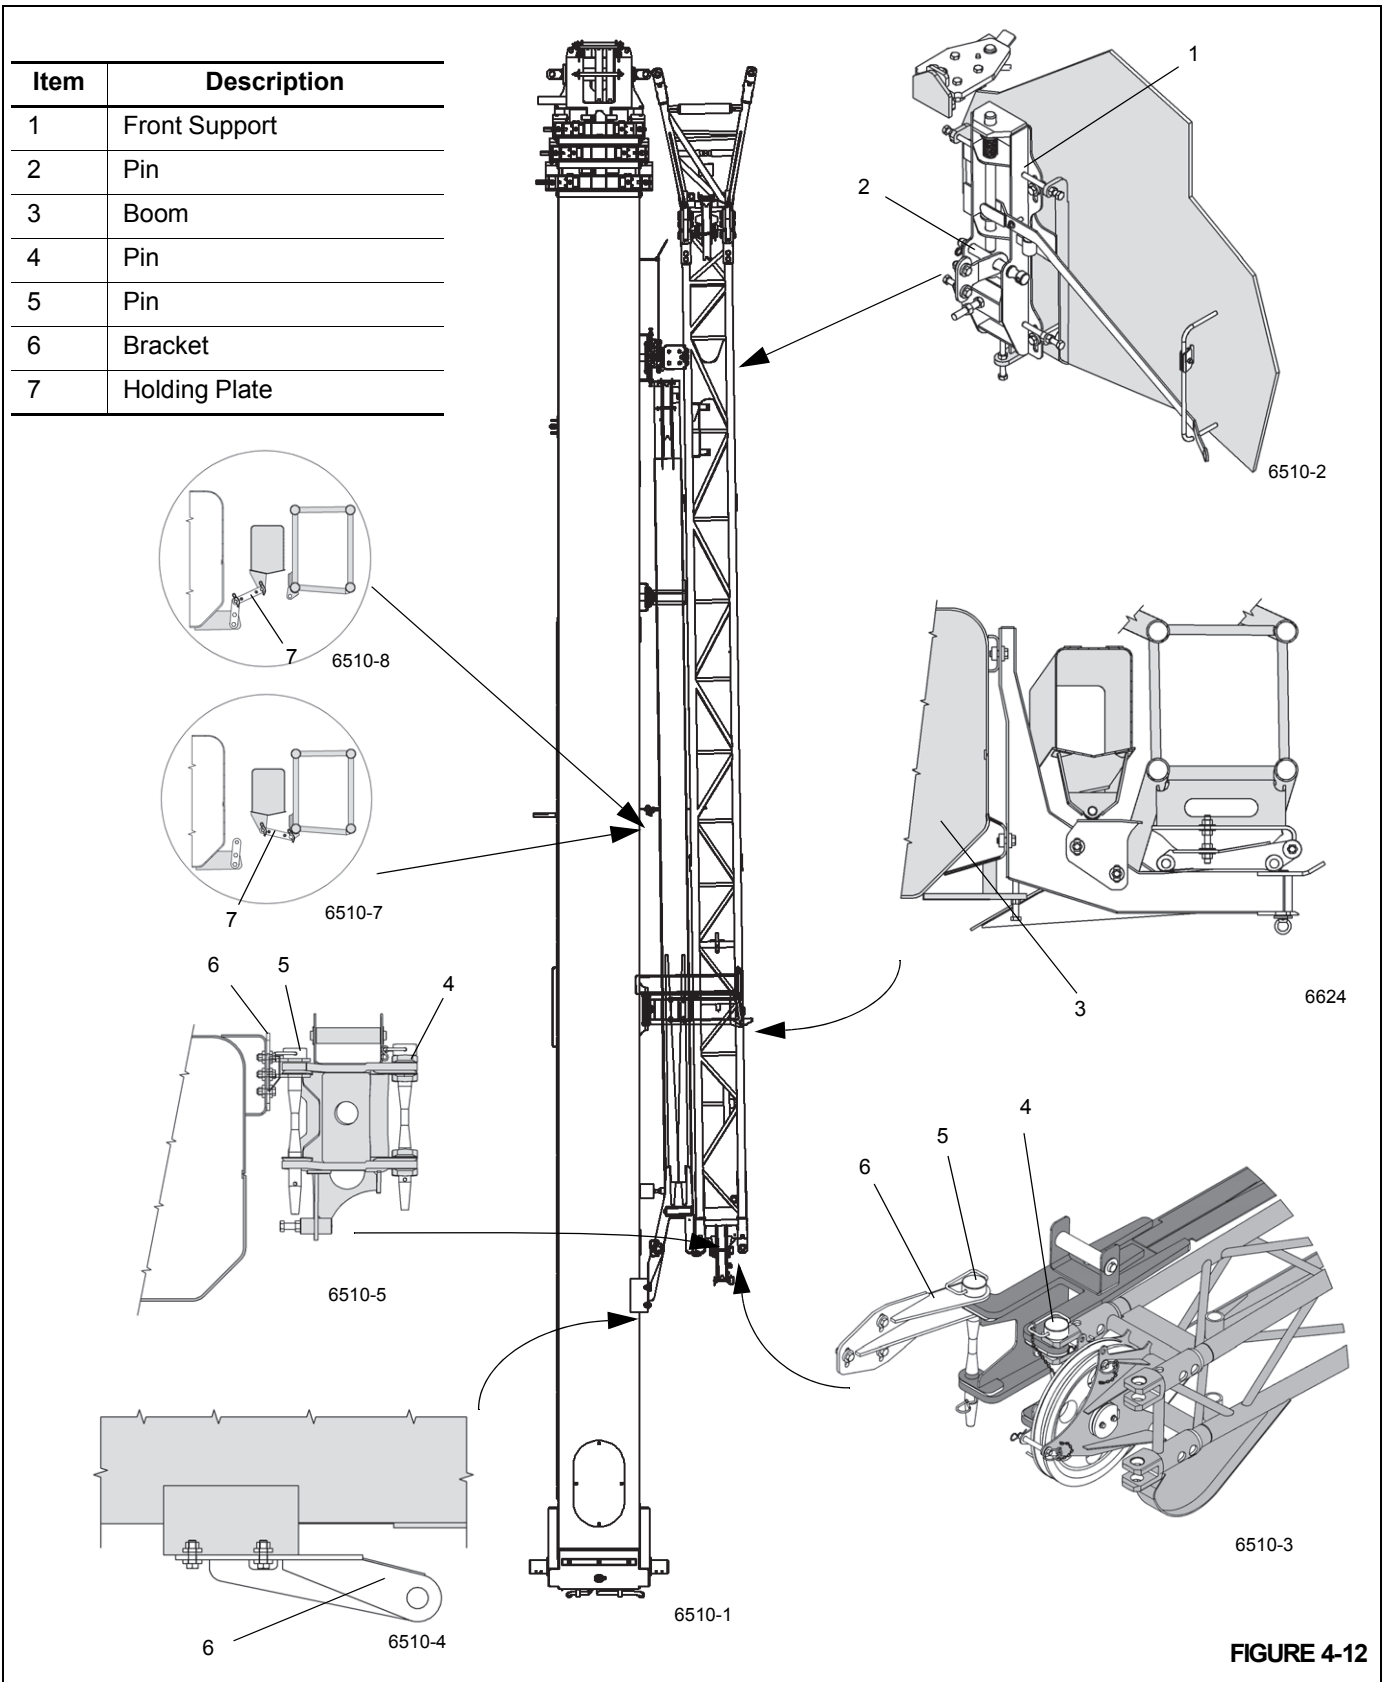

FIGURE 4-12
- Check the connections and establish them if necessary (Figure 4-12).
- The 33 ft (10.1 m) section is locked at the front support (1) on the main boom and is secured with a retaining pin (2)
- The pins (4) are inserted on the pivot point between the 23 ft (7 m) section and the 33 ft (10.1 m) section.
- The connection (7) in the middle area is between the 23 ft (7 m) section/33 ft (10.1 m) section.
- The connection (5) between 23 ft (7 m) section and main boom in the rear area is established (Figure 4-12) (control # 6510-7).
- The connection (7) in the middle area is between the 23 ft (7 m) section and the main boom (3) (Figure 4-12).
- The connection (5) between the 23 ft (7 m) section and the main boom in the rear area is established.